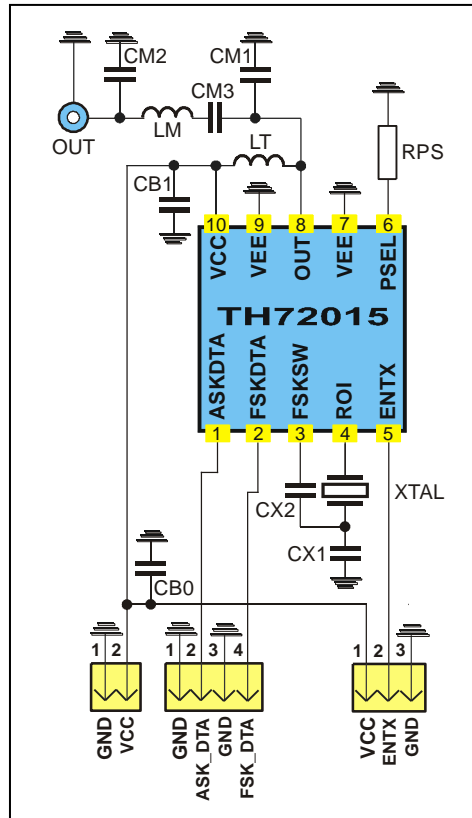

Fig. 18: Test circuit for FSK and ASK with 50 Ω matching network
typical values at $T_A = 23\text{ }^\circ\text{C}$ and $V_{CC} = 3\text{ V}$; test circuit shown in Fig. 18, $f_c = 433.92\text{ MHz}$
- Data according to test circuit in Fig. 18
6.1. Test circuit component list to Fig. 18